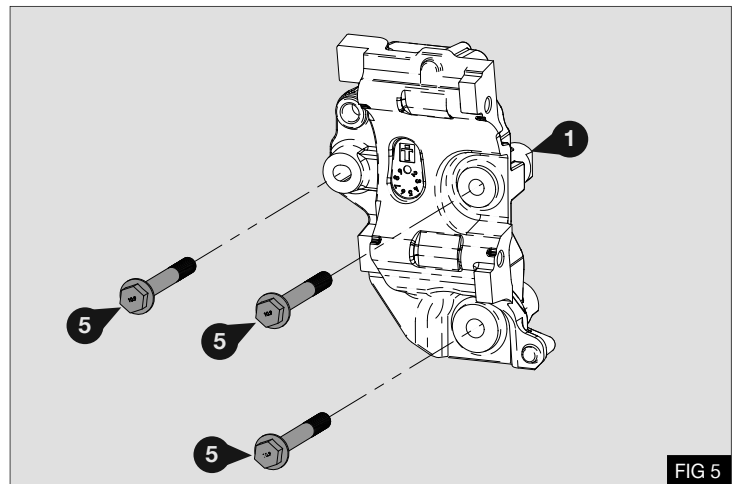

FIG 5
1. Install the mount bracket (1) to the engine using the supplied M10x80 bolts (5) - Fig 5
2. Torque the 3x M10x80 bolts (5) to 48Nm / 35.4lb-ft using a calibrated torque wrench - Fig 5